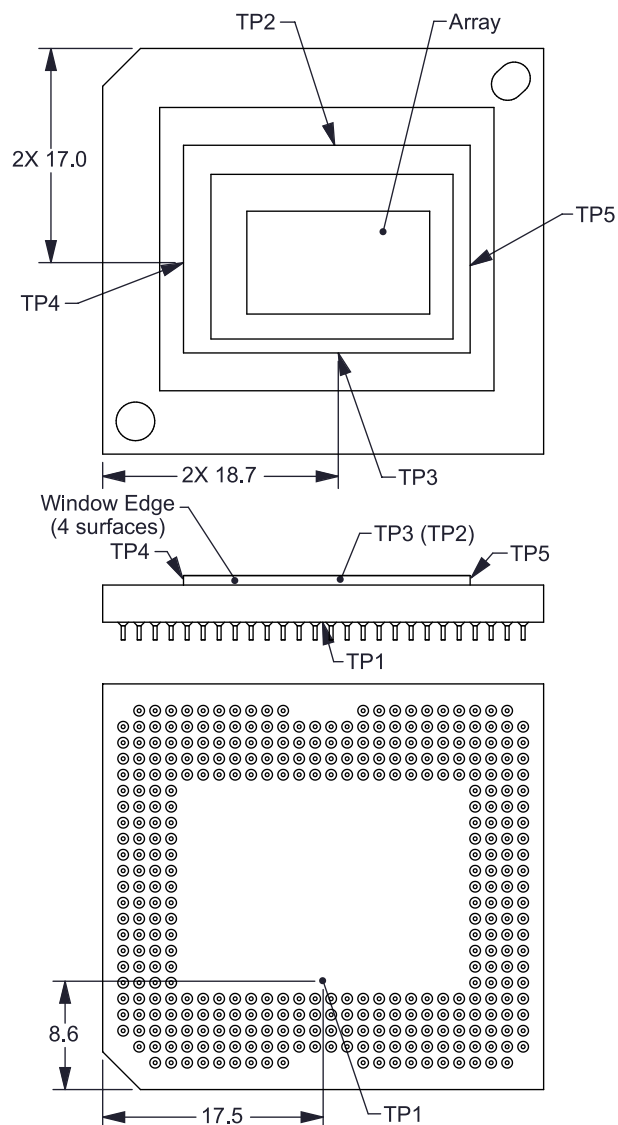

Figure 15. DMD Thermal Test Points
- T_{CERAMIC} = Measured ceramic temperature (°C), TP1 location in Figure 15
- Q_{ARRAY} = Total DMD power; electrical, specified in Electrical Characteristics, plus absorbed (calculated) (W)
- $Q_{\text{ELECTRICAL}}$ = Nominal DMD electrical power dissipation (W), specified in Electrical Characteristics
- SL = Measured ANSI screen lumens (lm) (3)